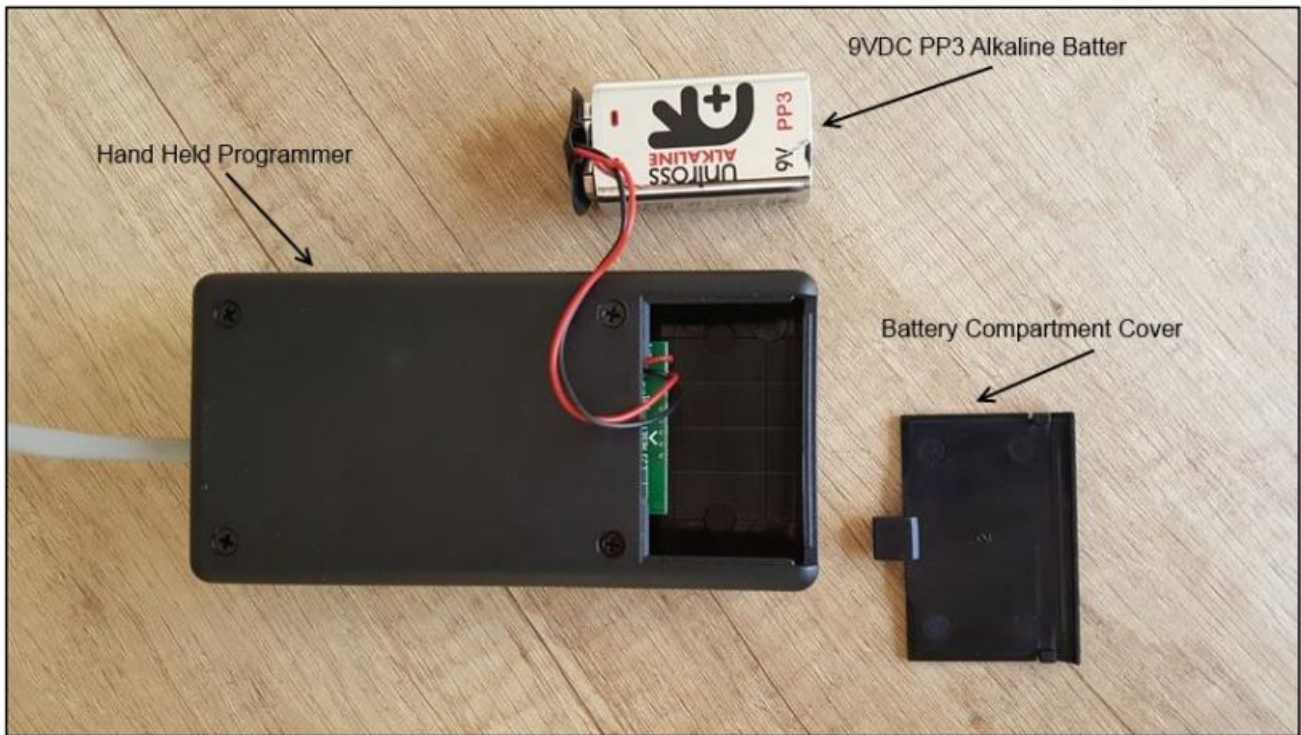

Figure 1: Programmer
- Referring to Figure 1 above, remove the battery compartment cover and extract the polarized battery connector.